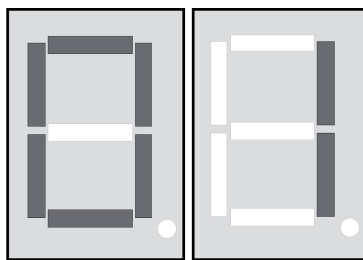

Figure 4: Channel display lights up
- Connect 9 V block battery to connection clip (8).
The channel display (13) lights up and indicates the current radio channel (Figure 4).
The channel display (13) lights up (Figure 4).
- Press both buttons ▲ and ▼ (12) for approx. 5 seconds.
- Press both buttons ▲ and ▼ (12) for approx. 10 seconds.